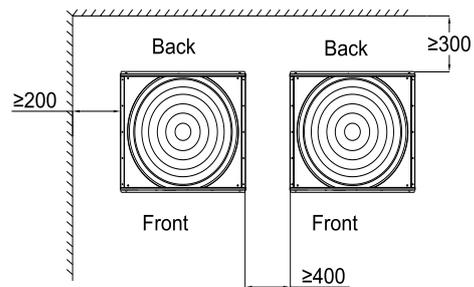

Figure 4
- Obstacles in the back and sides (see Figure 4)